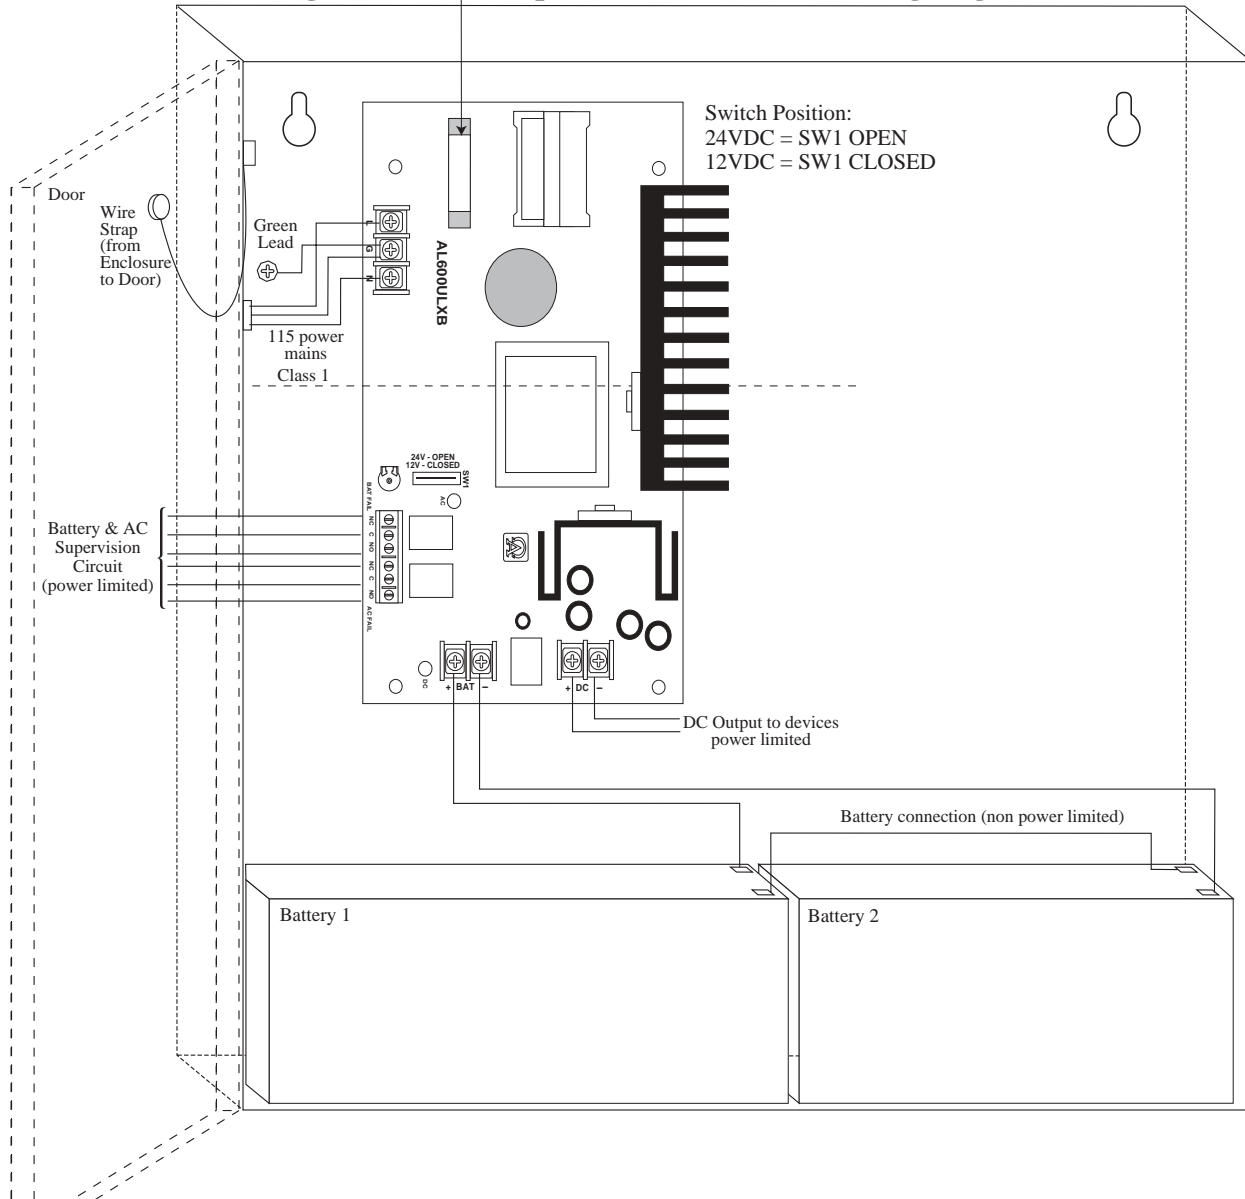

Fig. 1
2. Set the AL600ULX to the desired DC output voltage by setting SW1 (Fig. 1) to the appropriate position (see power supply voltage output selections chart).
3. Connect AC power (115VAC / 60 Hz to terminals marked [L, G, N] (*Fig. 1*). Use 14 AWG or larger for all power connections (Battery, DC output, AC input).
4. Connect devices to be powered to terminals marked [- DC +] (*Fig. 1*).
6. Connect appropriate signaling notification devices to AC FAIL & BAT FAIL (*Fig. 1*) supervisory relay outputs.